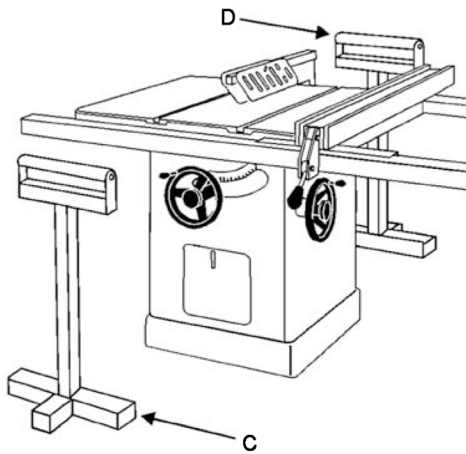

Figure 34
When ripping long boards, use a support at front of table (C, Figure 34), such as a roller stand, and a support or "tailman" at the rear (D).